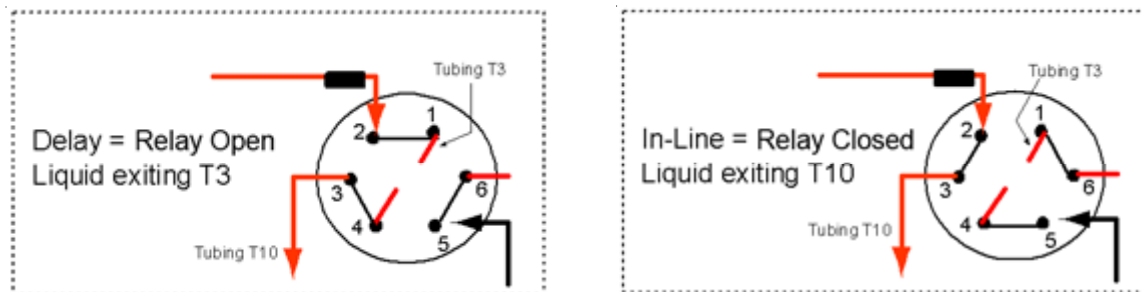

Figure 5
The Rheodyne valve can be in one of its two possible positions. We now have to carry out a wet test to verify that the valve-position-to-command assignment is correct (see Figure 5).
- B. Carry out several changes between Relay 1 open and closed using Chromeleon commands and verify that at Relay Open, the Transfer Fluid is exiting from tubing T3, and at Relay Closed, the same fluid is exiting from tubing T10 (see Figure 5).
- D. Verify the set flow rate of the Transfer Fluid by collecting and weighing fractions of liquid captured at tubing T10 (see figure 5).